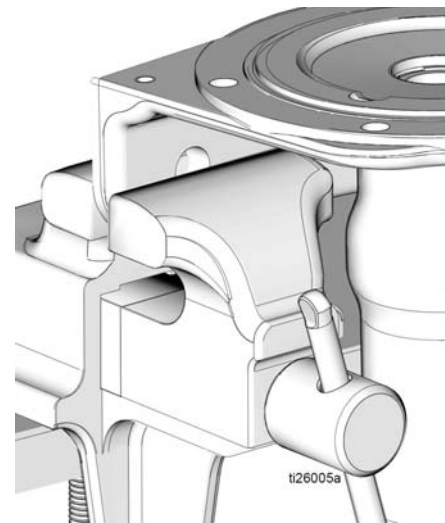

FIG. 24
17. Reposition the pump base (1) in the vise as shown in FIG. 24.